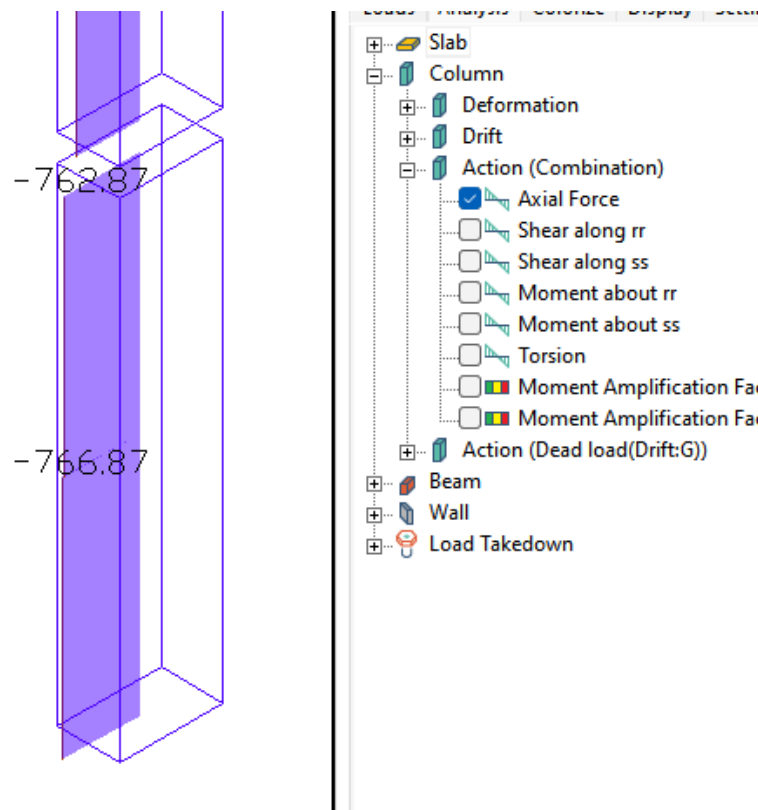

FIGURE 15-2
Note that for shear and moment, the values are referenced per the local column axes. By default, the r-r local axis follows the global X axis and the s-s local axis follows the global Y axis. The images below show the selection made and a zoomed-in view of the axial force for Column 13. The program reports and uses the top and bottom forces and moments for column design. In the example presented below, the top force is -762.87 K (C) and the bottom force is -766.87 K (C), as shown in **FIGURE 15-2**.